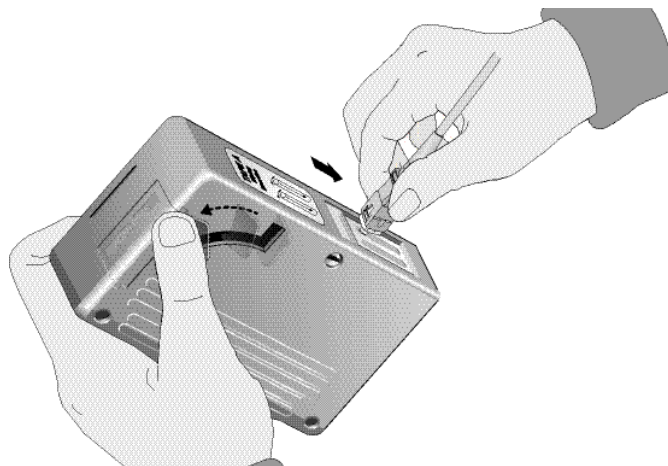

Figure 99. Rubbing the Ferrule Tip on the Cleaning Surface
1. With one hand, hold the cartridge cleaner and push the lever on the cleaning cartridge in the direction of the arrow to expose the cleaning surface, as shown in Figure 99.
2. Place the ferrule tip on the exposed cleaning surface and rub the ferrule in a downward direction, as shown in Figure 99.